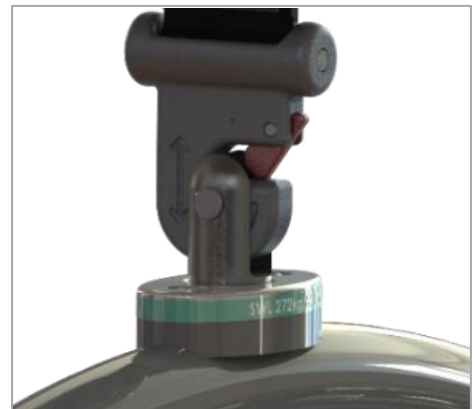

Figure 10-3
3. Pivot the carry bar down to its natural position and release the retaining tab to secure. (See figure 10.3)